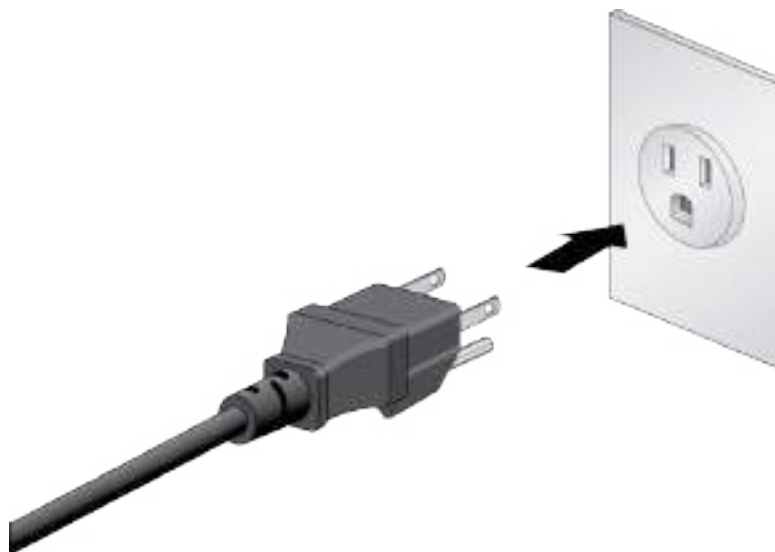

Figure 104. Connecting the Power Cord to an AC Power Source
3. Connect the power cord to an appropriate AC power source. Refer to Figure 104 on page 158.